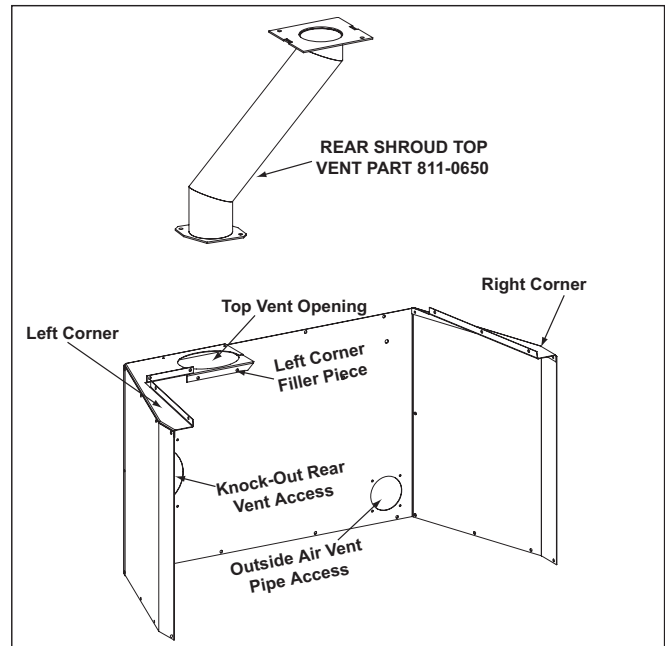

Figure 20.1
2. Use 2 screws to attach left corner filler piece of rear shroud to the insert hopper. **Figures 20.1 and 20.2.**
7. Use 2 screws to attach left corner filler piece of rear shroud to the insert hopper. **Figures 20.1 & 20.2 on page 20.**